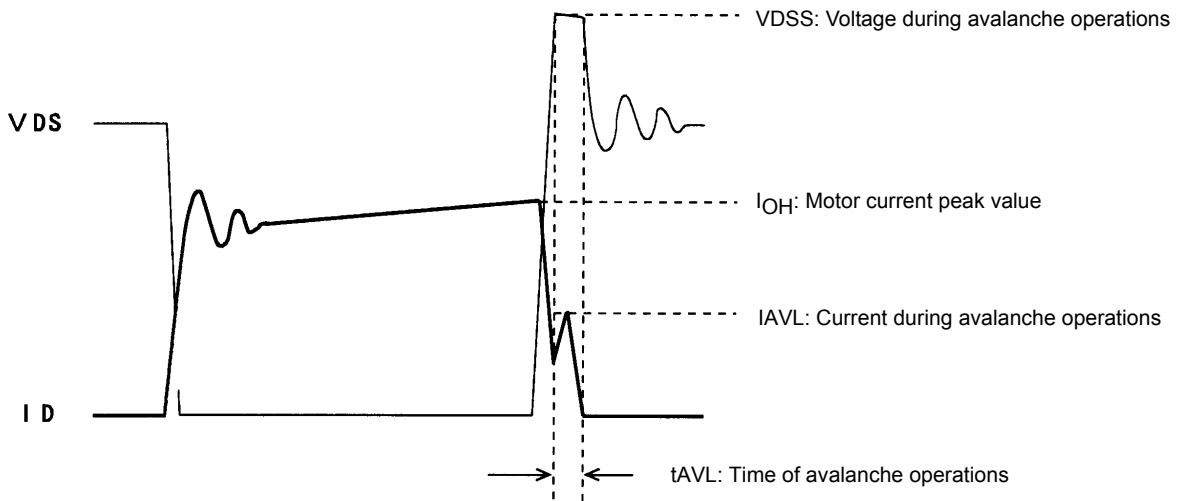

Figure 1 Output Current, I_D , and Voltage, V_{DS} , Waveforms 1 of the STK672-4** Series when Driving a 2-Phase Stepper Motor with Constant Current Chopping
When driving a 2-phase stepping motor with constant current chopping using an STK672-4** Series hybrid IC, the waveforms shown in Figure 1 below result for the output current, I_D , and voltage, V_{DS} .
Although the waveforms during avalanche mode are given in Figure 1, sometimes an avalanche does not result during actual operations.
- Increases in V_{DSS} , t_{AVL} , and I_{AVL} in Figure 1 due to an increase in the supply voltage from 24V to 36V.
If the factors above are negligible, the waveforms shown in Figure 1 become waveforms without avalanche as shown in Figure 2.